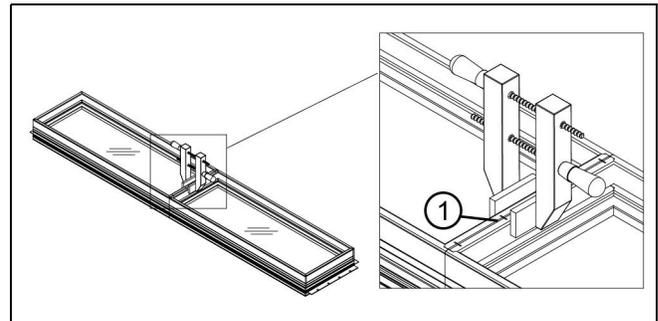

Figure 33
4. Make sure mulled units are flush and square at sill and jamb liners. Fasten interior of mulled units with 1/2" x 1" 16 gauge staples spaced every 5" (27). See Figure 33.